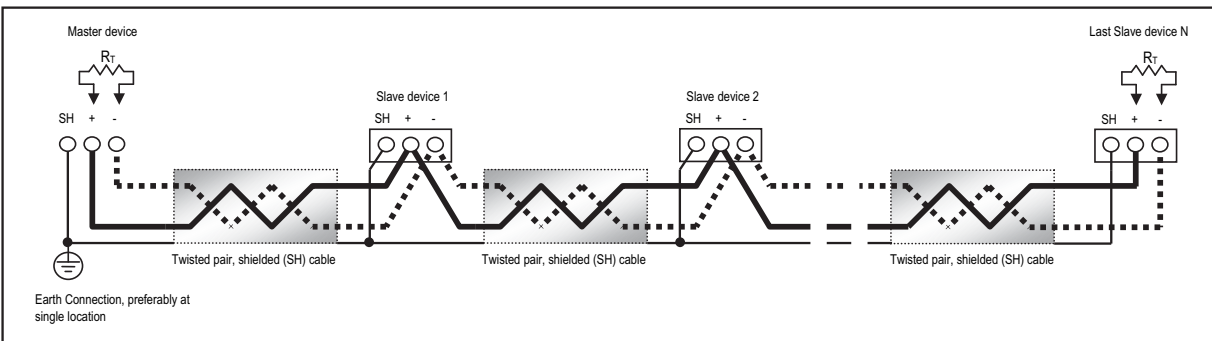

Figure 5.5: RS485 Daisy Chain Connection
- Connect shield to RS485 Master and individual devices as shown in Figure 5.5. You may also connect the shield to earth-ground at one point.
Figure 5.5 shows a representation of an RS485 Daisy Chain connection.